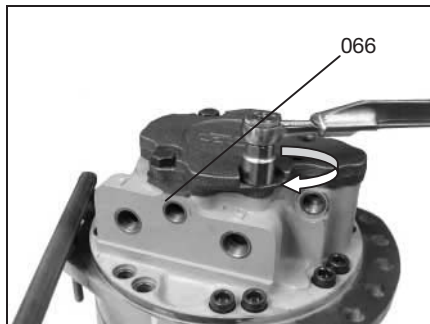

Fig 111.
- 3 Install and tighten the screws (066) to 200-230 Nm (140-165 lbf ft) → Fig 111. (E-129).